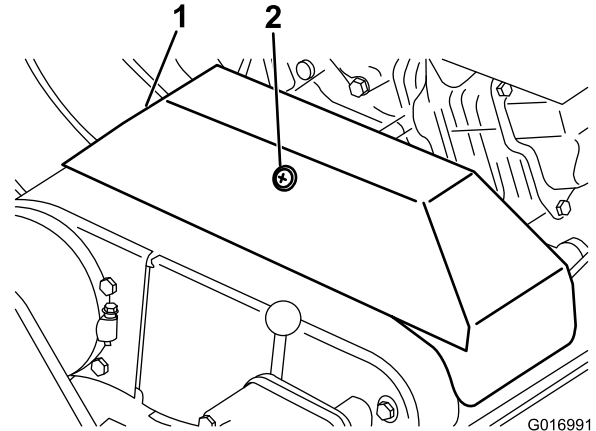

Figure 39
2. Loosen the retainer securing the V-belt cover and pivot the cover open (Figure 39).